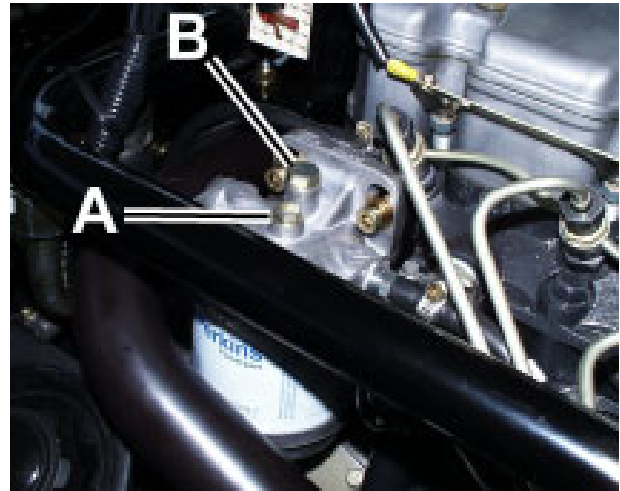

Fig.10
2. Open air vent A onto top of fuel filter to allow air to escape.(Fig.10)